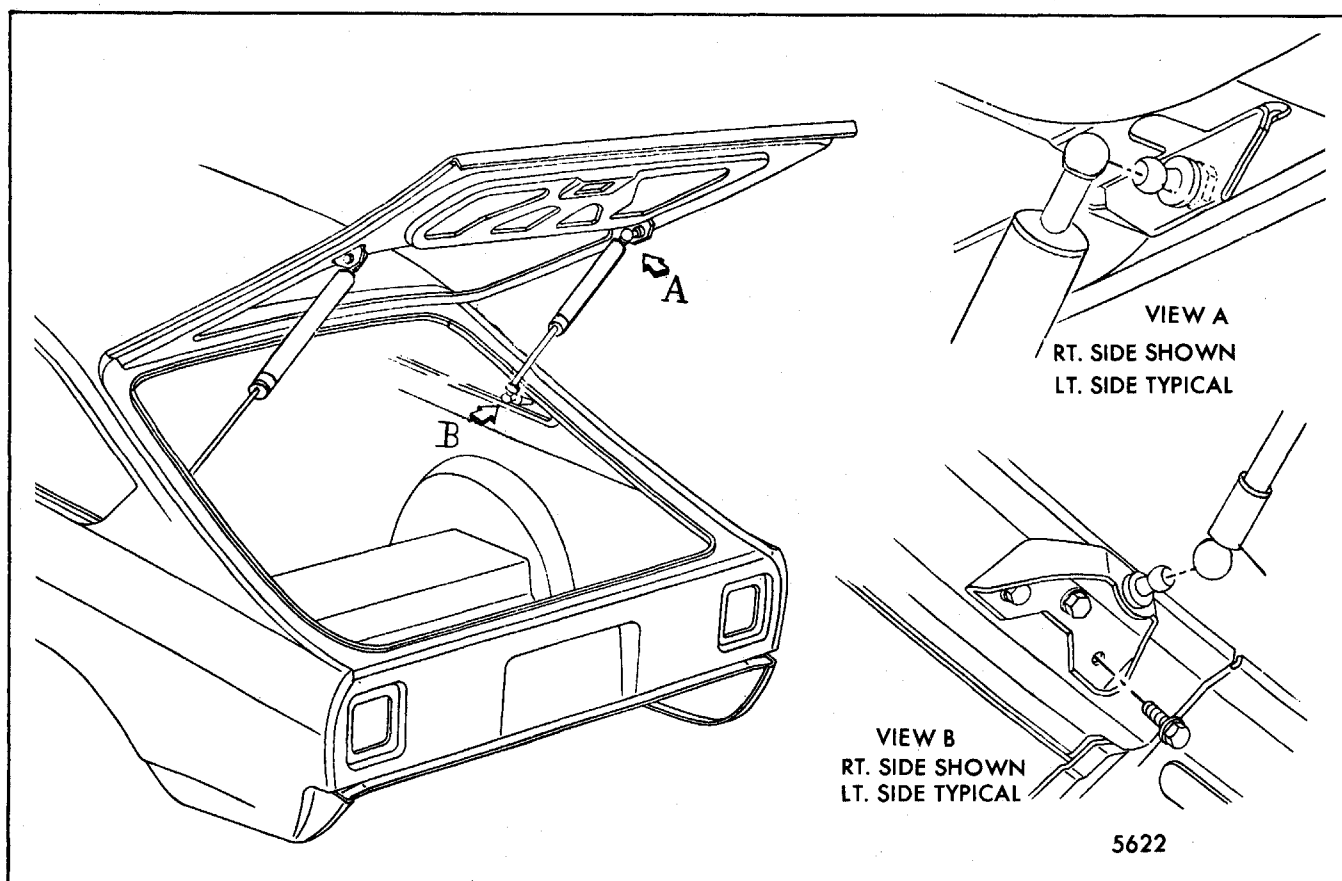

Fig. 7-5-Hatchback Lid Support Assembly Attachment - H-77 Shown, H-07 and X-17 Similar
Opening assist is performed by tubular gas-operated compartment lid support assemblies mounted at each side of the lid and attached to the body. The lid up-stop is incorporated within the support assembly (Fig. 7-5).
2. Remove lid and body side retaining clips (using scratch awl or similar tool) from ends of gas-operated support assemblies (Figs. 7-5 and 7-6).